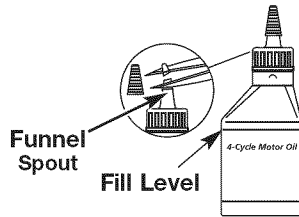

Fig. 10
Your unit is supplied with one 3.04 fluid oz. (90 ml.) bottle of SAE 30 SF, SG, SH oil (Fig. 10).
**NOTE:** Save the bottle of oil. It can be used to measure the correct amount during future oil changes (Fig. 10). See *Changing the Oil*.
1. Unscrew the top of the bottle of oil and remove the paper seal covering the opening. Replace the top. Next, cut the tip off the funnel spout (Fig. 10).